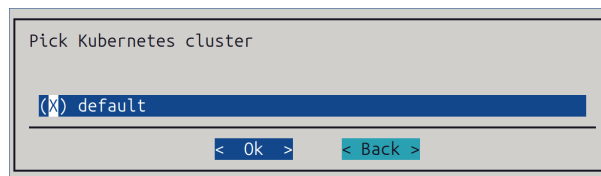

Figure 2.2: NetQ deployment: choosing a Kubernetes cluster
2. The Kubernetes cluster where NetQ is to be installed is chosen (figure 2.2):